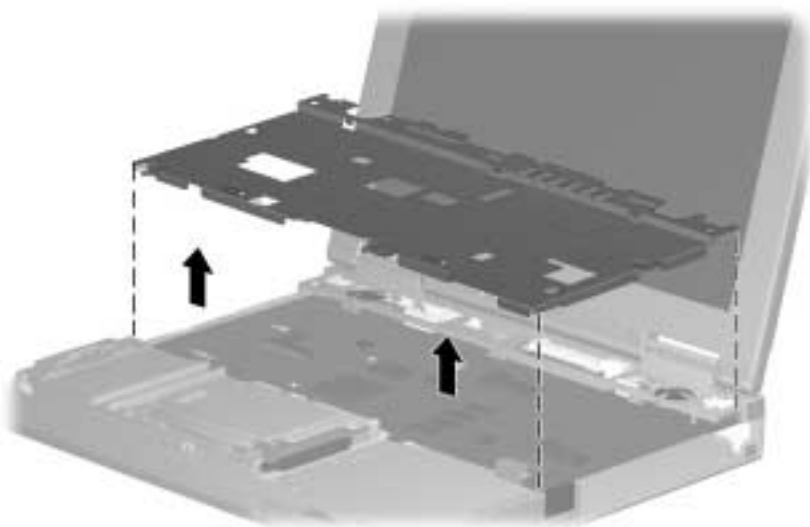

Figure 5-21. *Removing the EMI shield*
5. Lift up the front edge of the shield and swing it toward the back of computer (Figure 5-21).